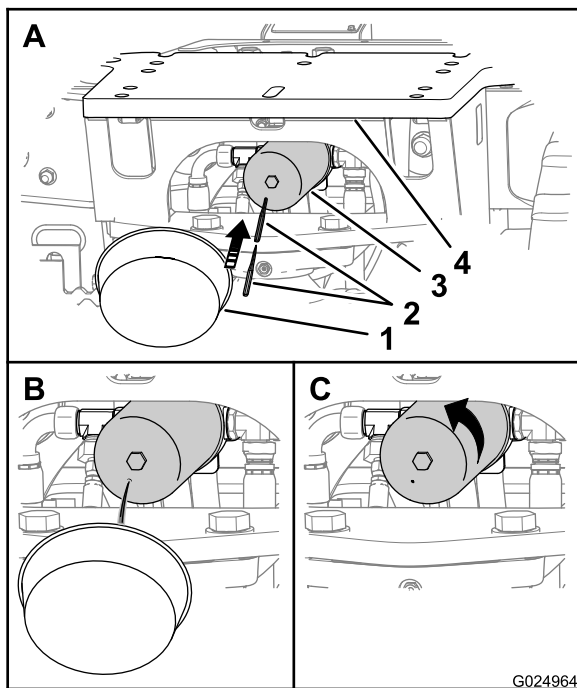

Figure 117
Note: You can access the hydraulic-return filter from underneath the rear-attachment plate of the machine (Figure 117).
1. Place a container under the hydraulic-return filter (Figure 117).
3. Rotate the hydraulic-return filter counterclockwise and remove the filter (Figure 117).
2. Puncture the bottom of the hydraulic-return filter and allow the residual hydraulic fluid to drain in the container (Figure 117).